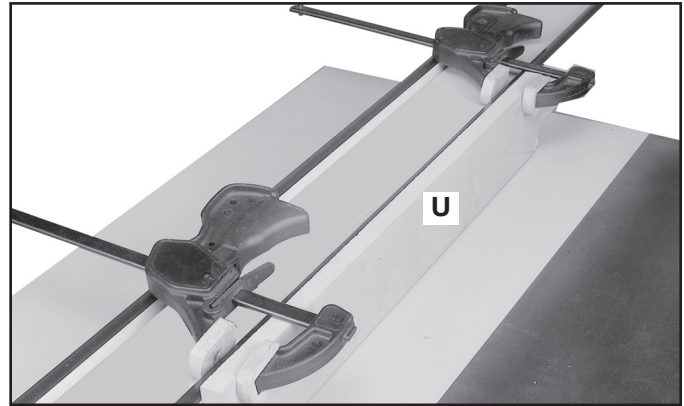

FIG. 73
Add a wood facing (U) Fig. 73 to one or both sides of the rip fence when you perform special operations (molding cutterhead, etc.). Depending on the fence, attach the wood facing to the fence either with wood screws through holes drilled in the fence, or with two clamps. For most work, 3/4" (19 mm) stock is suitable, although an occasional job may require 1" (25 mm) facing.